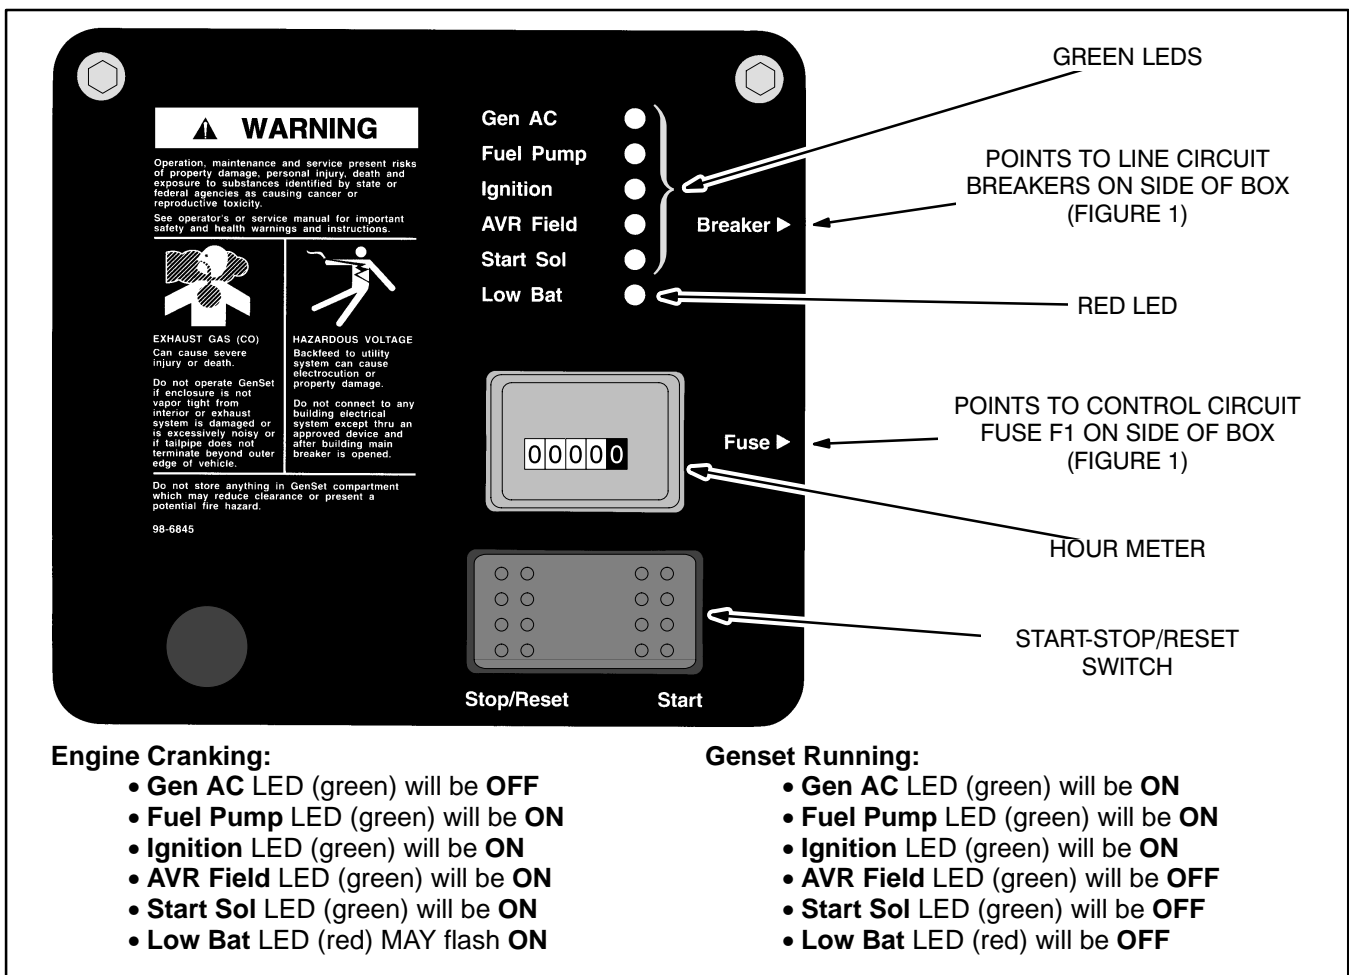

FIGURE 3. GENSET CONTROL PANEL
The genset control panel (Figure 3) and box include the following features:
3. Push and hold the genset or remote START switch (Figures 3 and NO TAG) until the genset starts.